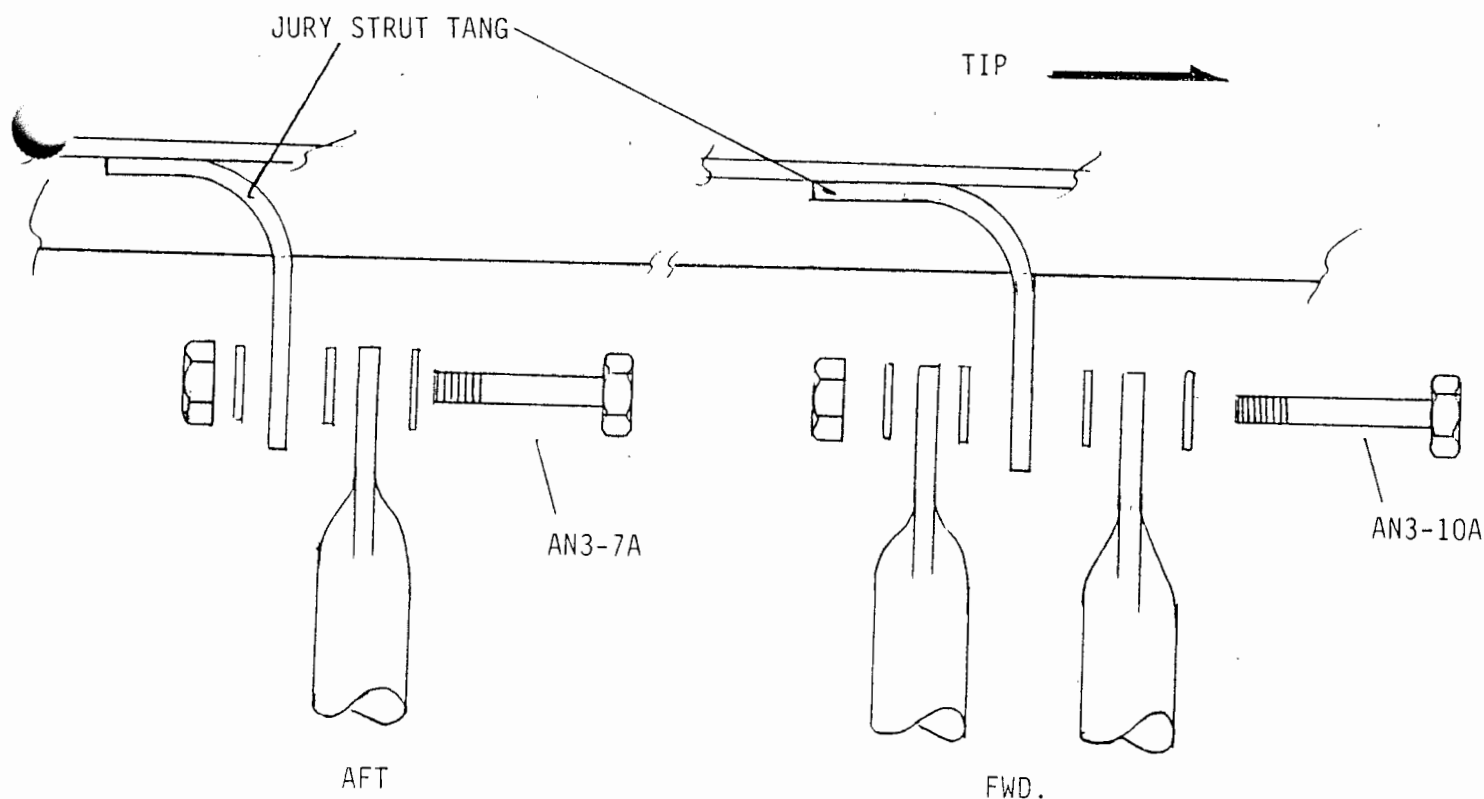

FIGURE 026-014
14. Bolt the 1/4" eyebolt in place and turn them edge to slipstream. Bolt the jury struts to the wing tabs as shown in Figure 026-014. The lower ends are not drilled or bent. The forward and aft jury struts will need to bend to line up with the eyebolts. Use an adjustable wrench opened just enough to slip over the smashed end. Once the jury struts are lined up, transfer drill through the eyebolts. NOTE: Pre-mark and move aside to drill (struts will be in the way otherwise. Be sure you don't force the fit of the jury struts or bowing of the lift struts may result. Use the parts drawing for bolt up pattern to eyebolts. File the ends of the jury struts as required to make fit. For quick part reference the shortest struts are the crossing strut, the second shortest are the forward verticals. The 29 1/2" is the diagonal and the 29" is the aft vertical.